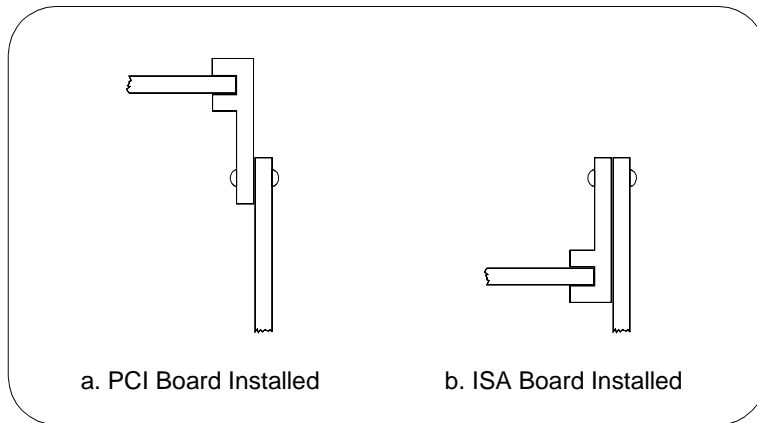

Figure 6-5. PCA and ISA Card Guide Positions
2. The E9850A includes a card guide that can be rotated to secure the top of a PCI or an ISA plug-in card, if the card is long enough to extend to the guide. Loosen the screw holding the guide and rotate the guide to the uppermost position for PCI cards or the lowermost position for ISA cards. See Figure 6-5.